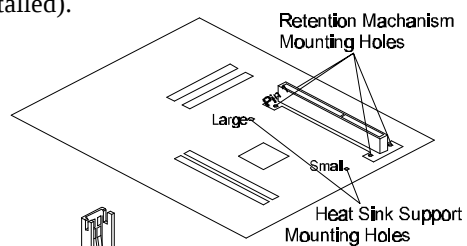

Figure 2-6
1. Finds out the Universal Retention Mechanism (URM) Mounting Holes of Slot1 on HOT-675Z main board. (Refer to Figure 2-6)